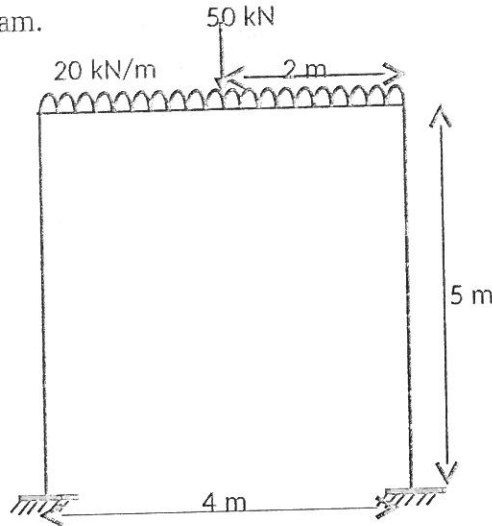

Fig. 4
5. Using slope-deflection method, analyse the frame supported and loaded as shown in Fig.4. Draw the bending moment diagram.